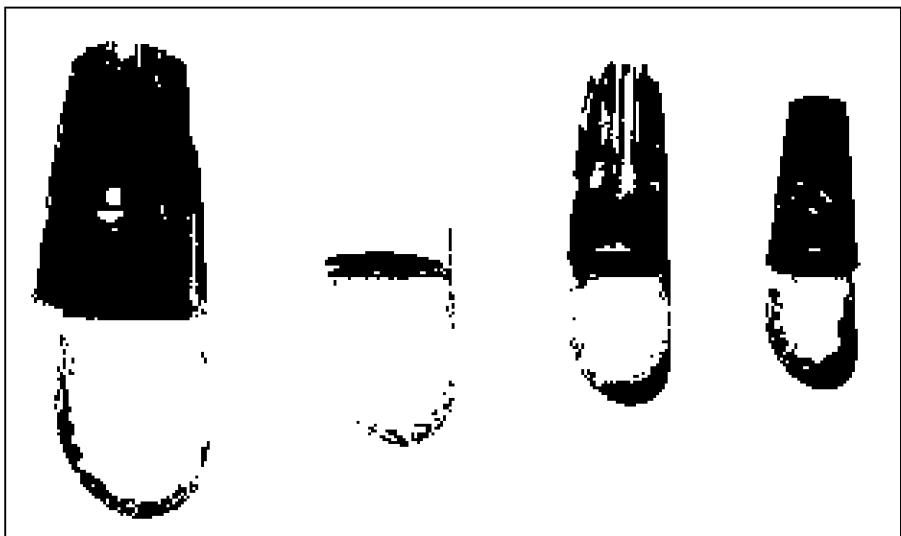

Figure 12-3:
- ✓ **Wire nuts:** This is another way to make connections. A few are shown in Figure 12-3.